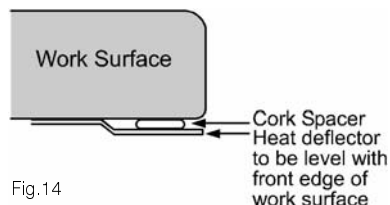

Fig.14
- Place the heat deflector flush with the edge of the worksurface, with the cork spacers up over (see Fig.14) and screw into position using the screws supplied with the appliance. Failure to do so may cause damage to the underside of the work surface.